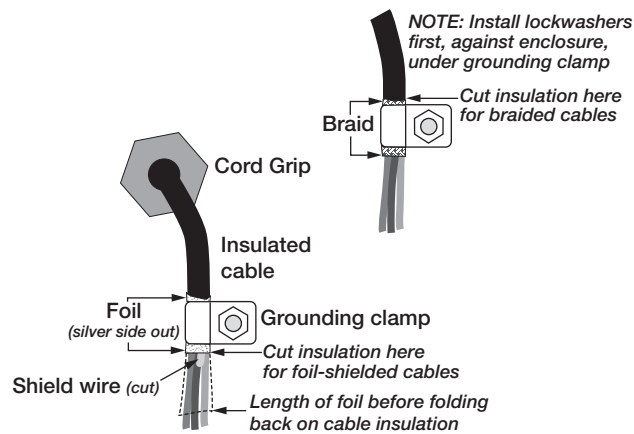

Figure 2. Grounding Clamp Attachment for Foil-Shielded and Braided Cabling
- For cables with foil shielding, strip insulation and foil from the cable 1/2 in (15 mm) past the grounding clamp (see Figure 2). Fold the foil shield back on the cable where the cable passes through the clamp. Ensure silver (conductive) side of foil is turned outward for contact with the grounding clamp.
- Route stripped cables through cord grips and clamps. Ensure shields contact grounding clamps as shown in Figure 2. Tighten grounding clamp nuts.